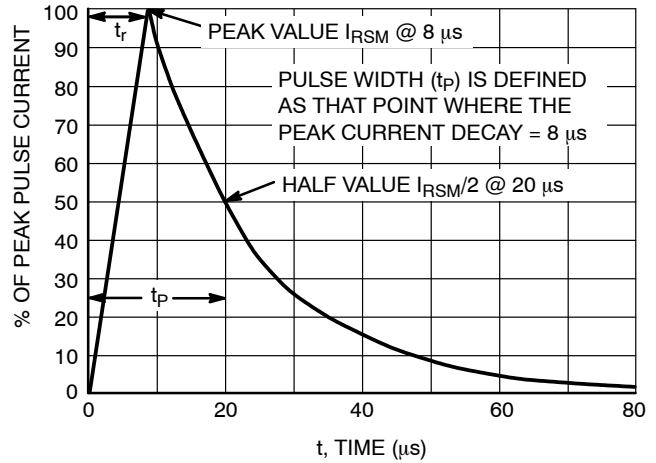

Figure 2. 8 × 20 μ s Pulse Waveform
- Peak Power: 150 W @ 20 μ s (Unidirectional), per Figure 2
- Non-repetitive pulse per Figure 2.